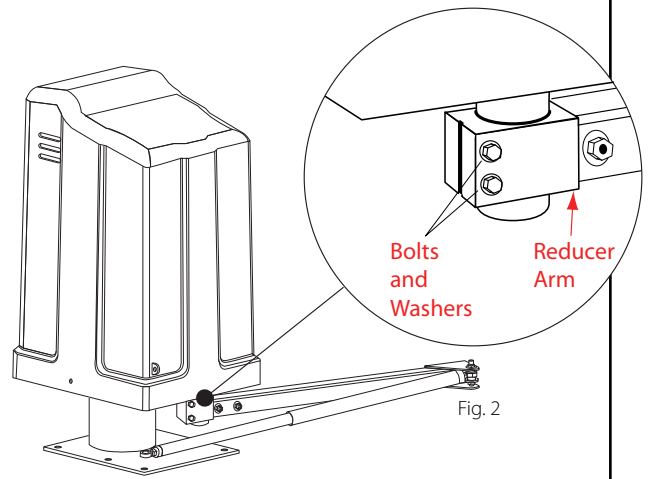

Fig. 2
2. Fit the end of the reducer arm onto the output shaft as shown and tighten the bolts. (Fig. 2)